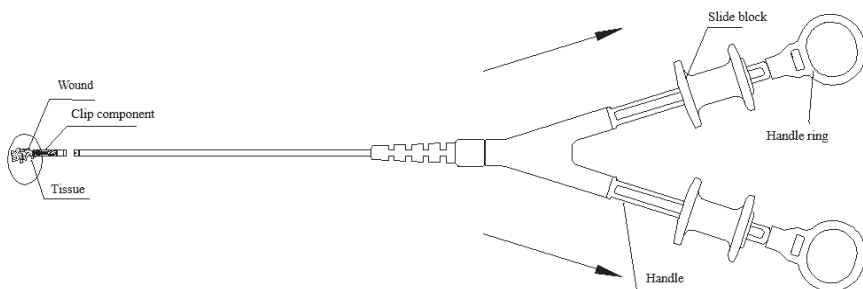

Fig 8 Release
7. To permanently close Disposable Dual Action Tissue Closure Device, you can move the slide block towards the handle ring after the resistance is felt. At this time, you can feel or hear the click, which indicates the clip has been released (as shown in Fig 8); after release, the clip and the device can be separated by the following two methods: